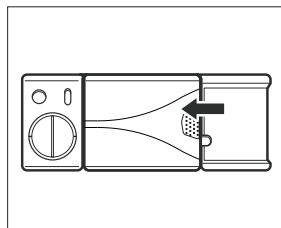

Fig. 9
3. Finally, close the flap by sliding it to the left (Fig. 9). To lock the flap, push it down slightly when closing.